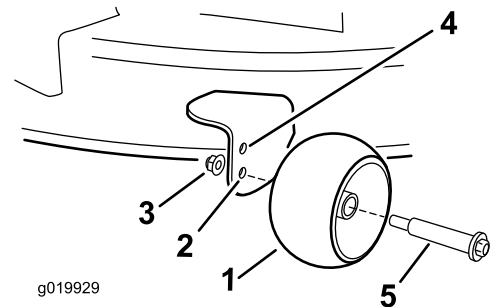

Figure 28
- Upper hole—use this position with the mower deck in the 63 mm (2-1/2 inch) and below the height-of-cut positions (Figure 28).
- Lower hole—use this position with the mower deck in the 76 mm (3 inch) and above the height-of-cut positions (Figure 28).